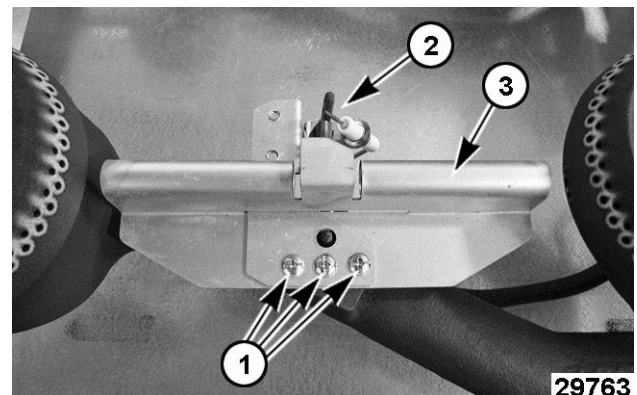

Fig. 102
8. Remove screws (1, Fig. 102) securing pilot assembly (2, Fig. 102) and flash tube (3, Fig. 102) to the top burner assembly. Slide pilot assembly out from mounting slot in flash tube.